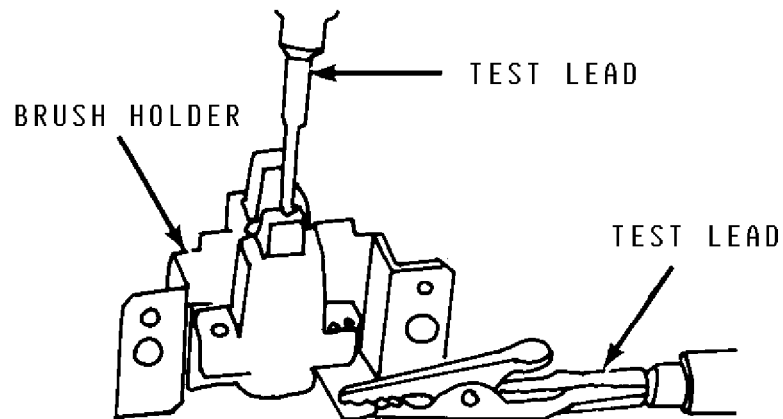

Fig. 3: Checking Brush Holder
2) Connect 12-volt test light between brush holder frame and "-" brush. Light should give steady light. If test results are not satisfactory or brush length is less than .51" (13 mm), replace brush holder. See Fig. 3.